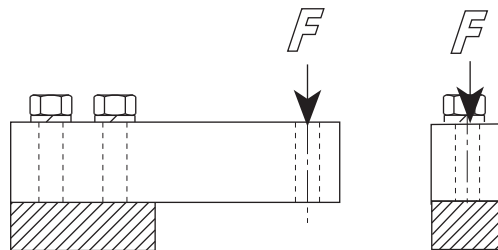

Figure 8-1. Single-Ended Beam
- The load should be applied vertically through the center line of the load hole (the load may be applied from above, as illustrated in Figure 8-1, or may be hung from below).